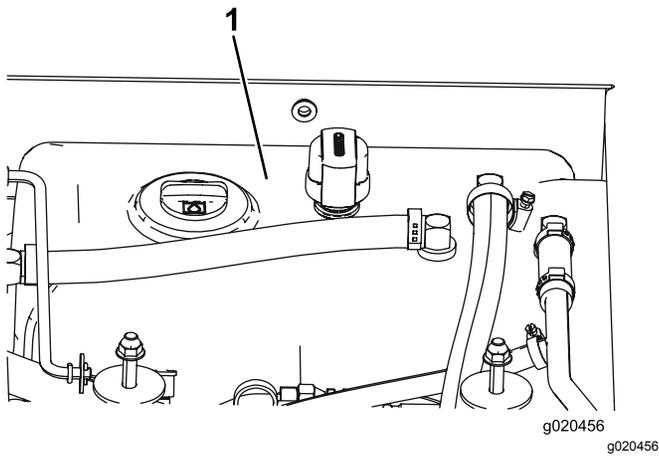

Figure 80
4. Fill the reservoir (Figure 80) with hydraulic fluid; refer to Checking the Hydraulic Fluid (page 62).